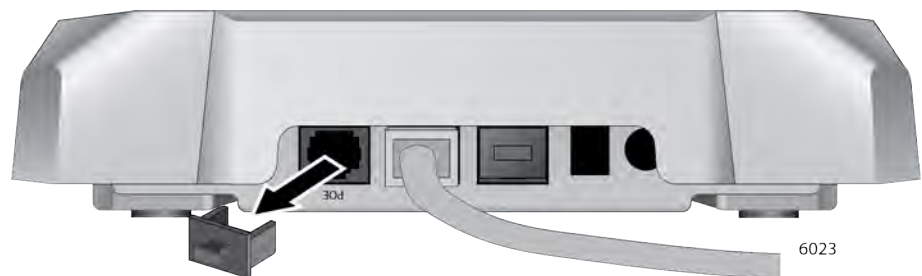

Figure 23. Removing the Dust Plug from the LAN2 Port
- a. Remove the dust plug from the port. Refer to Figure 23.